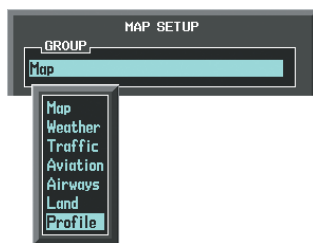

Figure 6-36 Navigation Map Page Setup Menu
- 4) Turn the small **FMS** Knob to select the Profile Group and press the **ENT** Key (Figure 6-36).